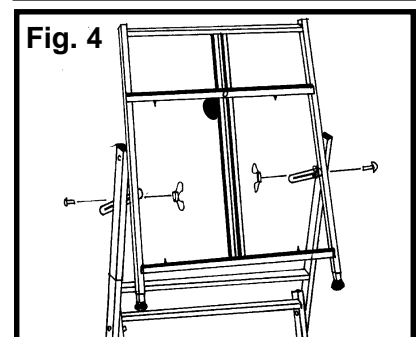

Fig. 4
6. Taking Upper Assembly [A] remove bolt and wing nut on tilt bracket. Re-insert bolt through tilt brackets that are attached to the Upper Assembly [A] and tighten with wing nut. See Fig. 4. at right. NOTE: When you want to change the tilt of your canvas, you will need to loosen these wing nuts and change the tilt of the Upper Assembly [A] to the desired position and then tighten the wing nuts once again to secure it.